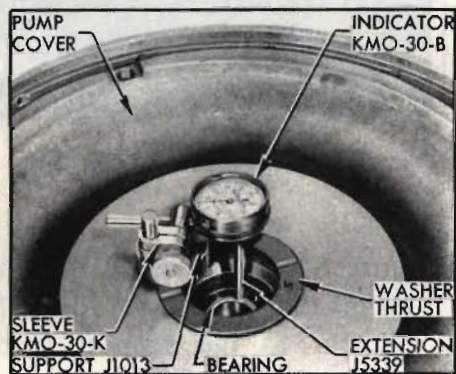

Fig. 40. Dial indicator on pump cover
10. Carefully remove the dial indicator and support from the turbine assembly. Place it firmly on the thrust washer on the pump cover with indicator plunger extension bearing against the inner race of the pilot bearing (Fig. 40). *Avoid changing the zero setting of the dial indicator.*